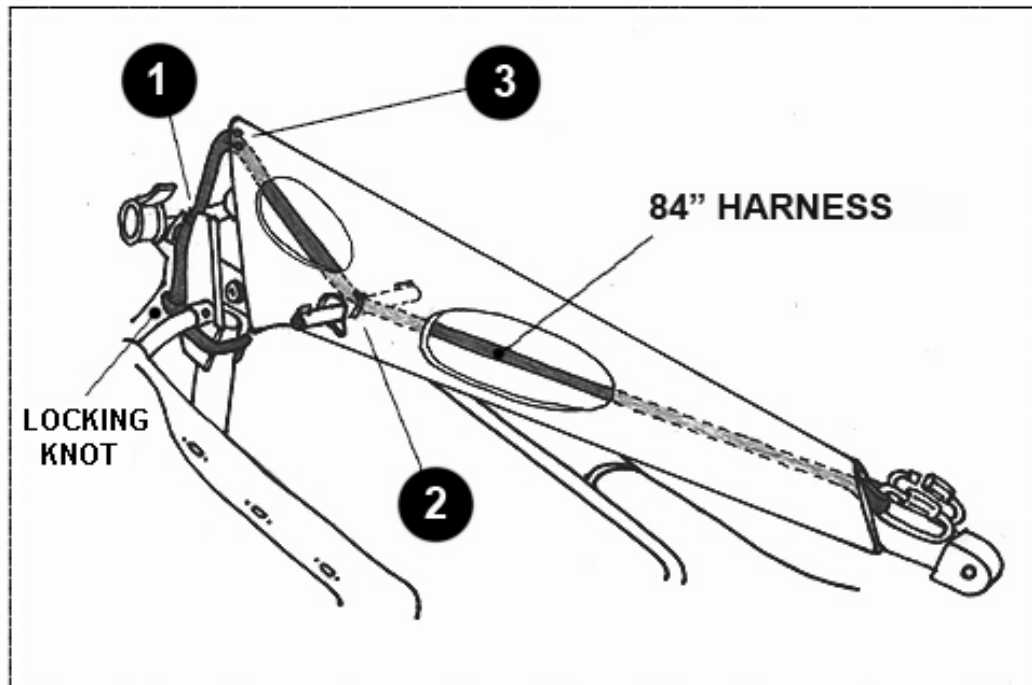

Figure 2-28
2.19 The diagram in Figure 2-28 shows the 84" Safety Harness installed on the Apollo Delta Jet Trike.